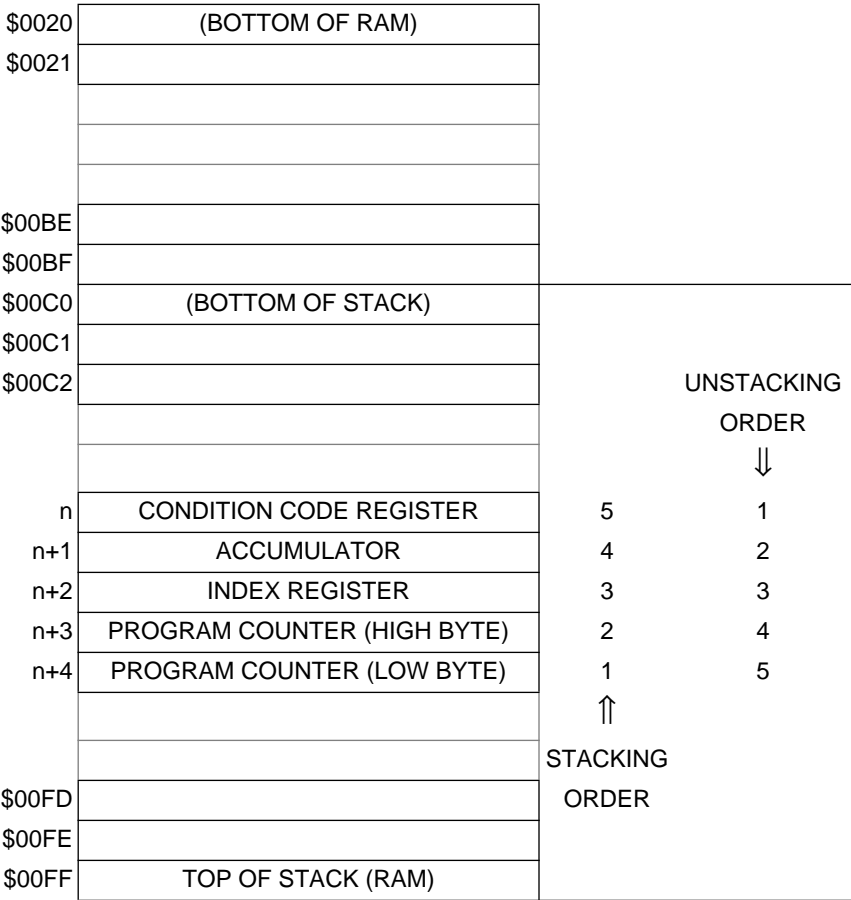
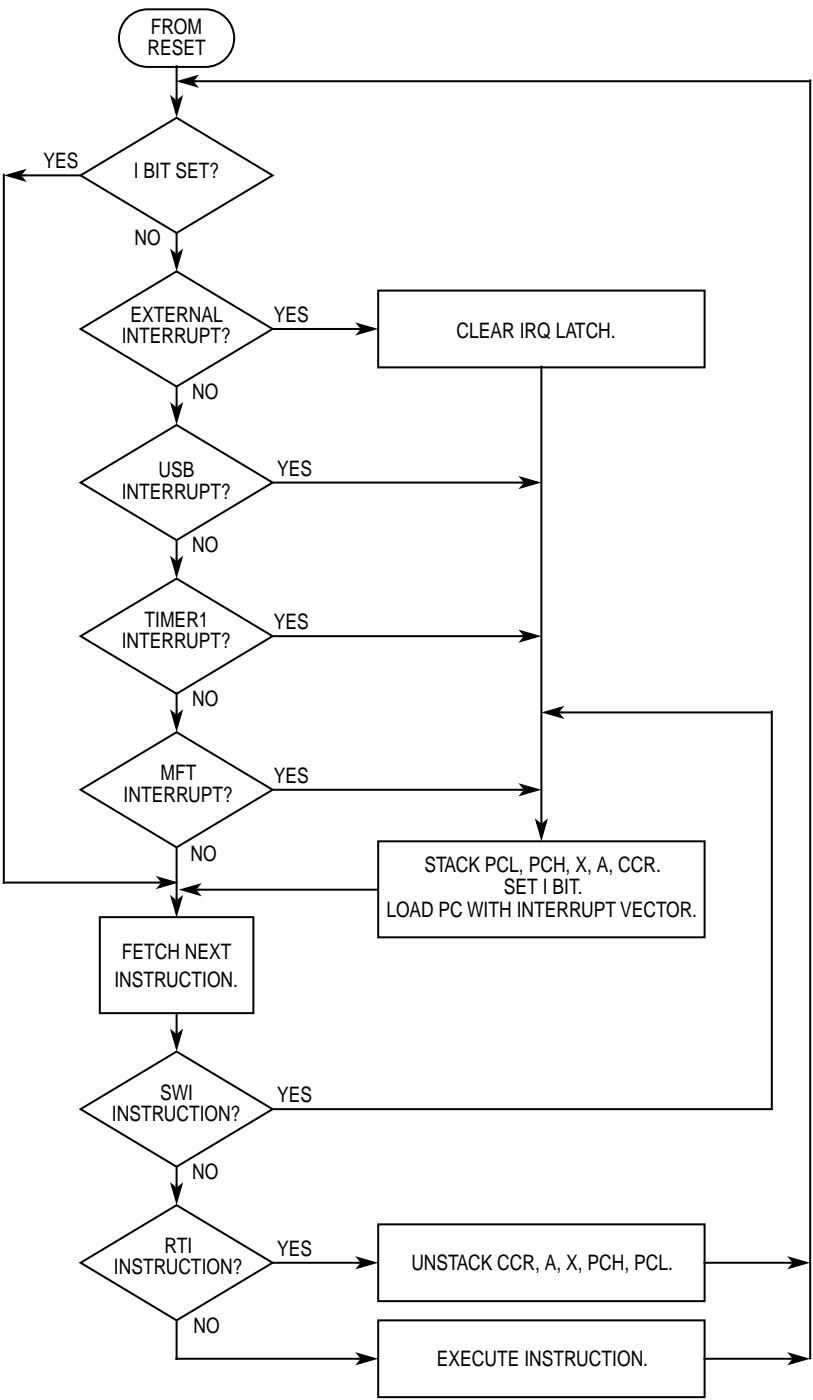

Figure 4-1. Interrupt Stacking Order
Figure 4-2. Interrupt Flowchart
- Stores the CPU registers on the stack in the order shown in **Figure 4-1**.
The return from interrupt (RTI) instruction causes the CPU to recover its register contents from the stack as shown in **Figure 4-1**. The sequence of events caused by an interrupt are shown in the flow chart in **Figure 4-2**.
The RESET function is not in the strictest sense an interrupt; however, it is acted upon in a similar manner as shown in **Figure 4-2**. A low level input on the $\overline{\text{RESET}}$ pin or an internally generated RST signal causes the program to vector to its starting address which is specified by the contents of memory locations \$1FFE and \$1FFF. The I-bit in the condition code register is also set.